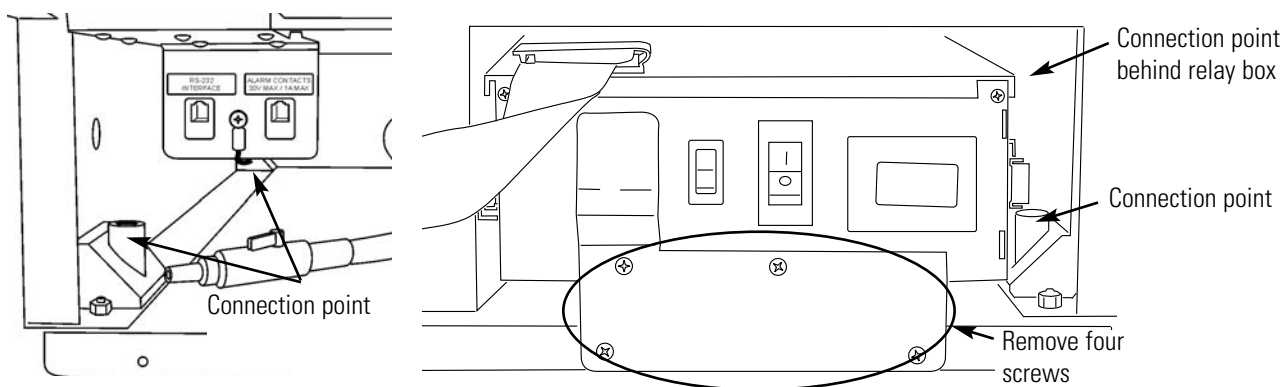

Figure 1-17. Remove Four Screws (top unit)
1. For easier access to stacking connection points on the top unit, the four screws on the front of the relay box bracket may be removed (Figure 1-17). The relay box can be pushed carefully back approximately an inch or pulled carefully outward to access the back connection point. The stacking hardware may then be installed as follows. When the stack has been secured, pull the relay box forward and reinstall the four screws.